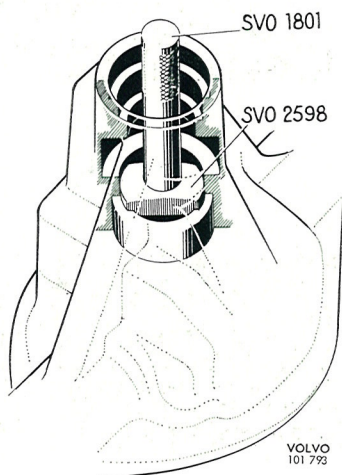

Fig. 4-96. Removing the rear pinion bearing race
9. If necessary, drive the rear bearing out of position, see Fig. 4-96. Use standard handle SVO 1801 and drift SVO 2598.